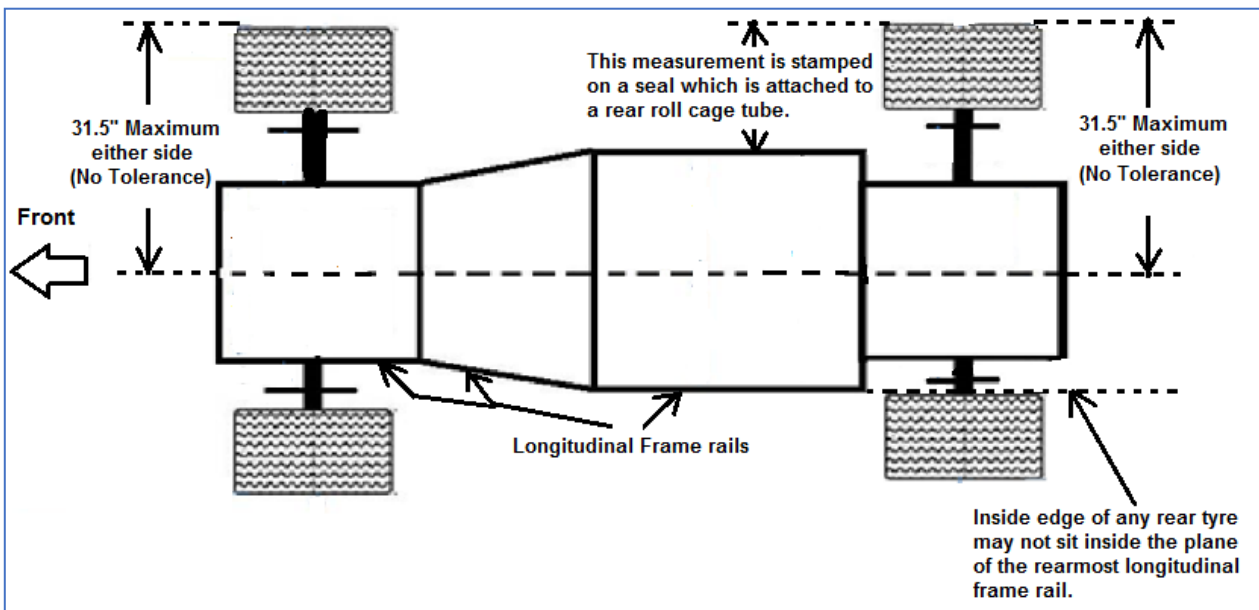

Figure 19
**25.8 Maximum track offset.** All cars must pass freely through the hoop described in (Figure 1). The outer most edge of any front or rear tyre may not protrude more than 31.5 inches out from the centreline of the chassis frame. No inside edge of any rear tyre is permitted to sit inside the outer edge of the widest point of the main frame rail (Figure 19).